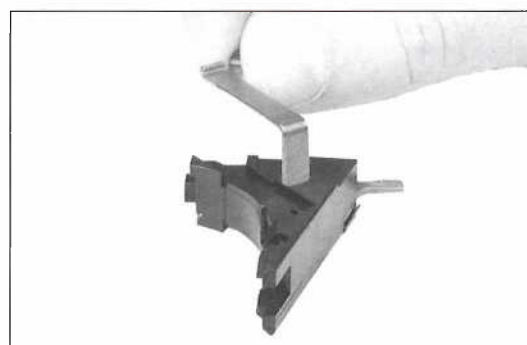

Fig. 97
- Insert the short leg of the connector into its recess in the trigger mechanism housing (Fig. 97). Press the connector in by using your pin punch (or your screwdriver) as shown (Fig. 98). While doing this operation, be careful to locate your tool as near as possible to where the connector is inserted in the trigger mechanism housing. Otherwise you could damage the connector. This should be a snug fit. Always seat the connector fully and ensure that it's firmly in place.